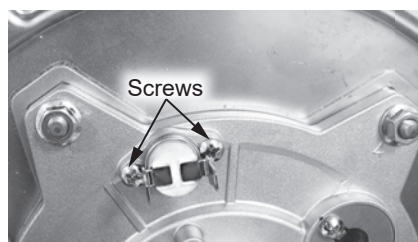

Figure 28 - Hi-Limit screw removal
- 5 Use a Phillips screwdriver to remove the two (2) screws securing burner door hi-limit to the burner assembly. Place screws aside in a safe place for reinstallation. See Figure 28.